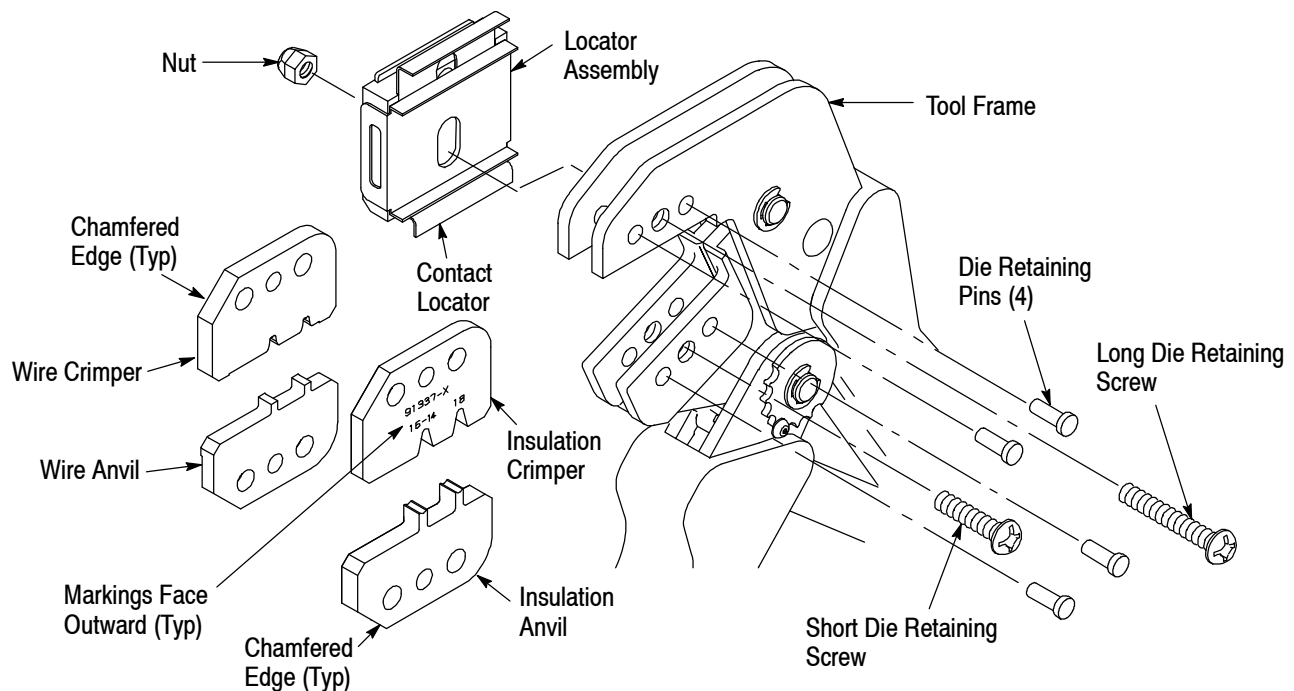

Figure 2
3. INSTALLATION AND REMOVAL OF DIE ASSEMBLY AND LOCATOR ASSEMBLY (Figure 2)